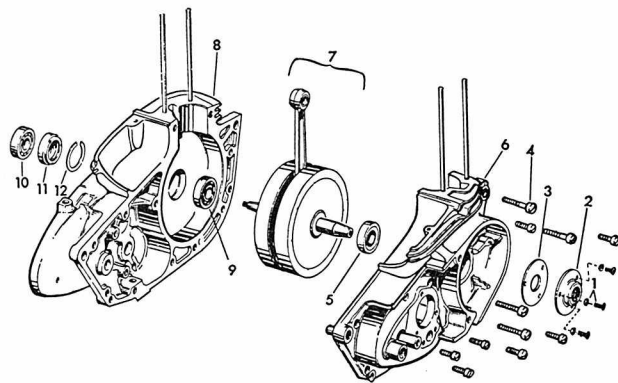
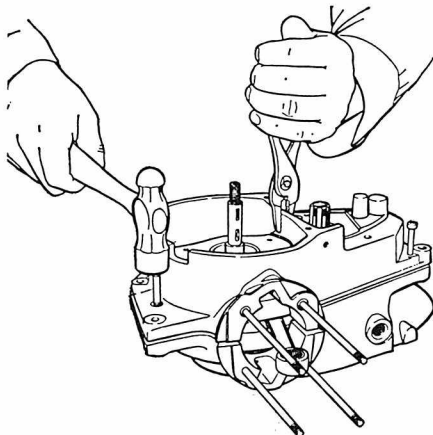

Fig. HD2-8—Exploded view of the engine crankcase. Refer to Fig. HD2-10 for an exploded view of the flywheel and connecting rod assembly.
Fig. HD2-9—The crankcase halves can be separated as shown by using two long screws.
To remove the connecting rod, crankshaft and flywheels assembly it is first necessary to remove the complete engine. Remove cylinder head, cylinder, generator or magneto. Remove the transmission mainshaft sprocket, oil seal, engine sprocket, front chain and clutch. Remove the starter mechanism. Remove seal (2—Fig. HD2-8) and screws (4). NOTE: On models 165, Super-10, Ranger, Pacer and Scat, all eleven screws (4) are located on right side; on Model 125 and Hummer, ten are on the right and one on the left. The crankcase can be separated as shown in Fig. HD2-9 by using two longer screws. It may be necessary to apply heat to right case half around the generator or magneto shaft bearing and both locating dowels.